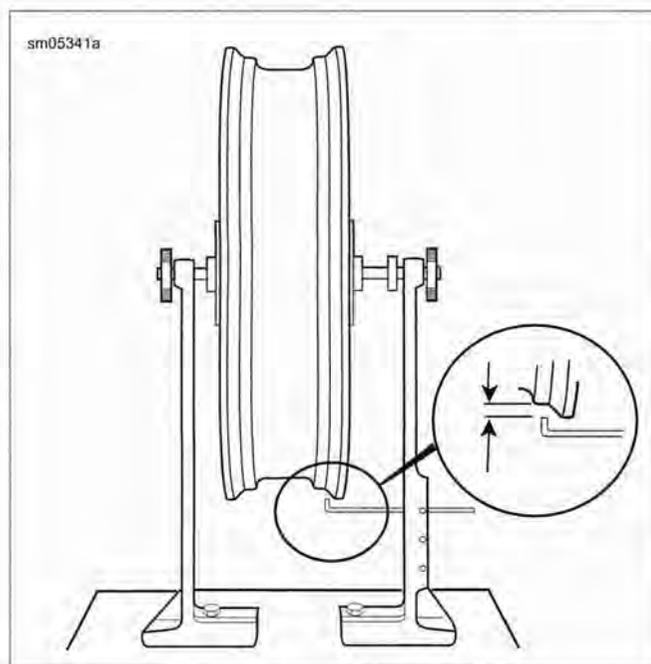

Figure 2-30. Radial Runout
1. See Figure 2-30. Point the gauge rod or indicator at the rim tire bead safety hump.